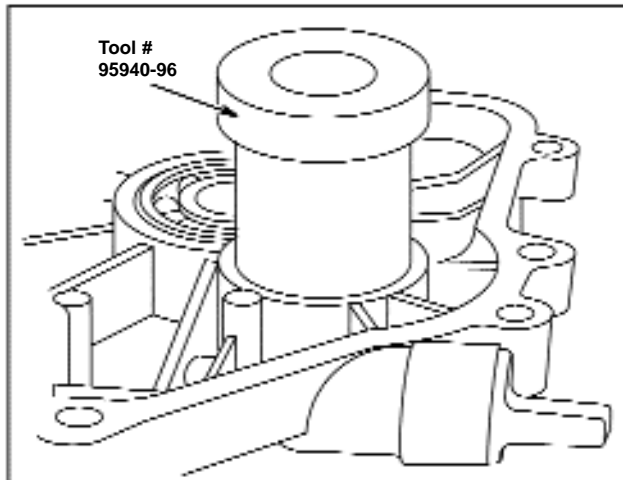

Figure 142- Install Ball Bearing
- Using an arbor press and Tool #95940-96 Driver, press in ball bearing until it bottoms, Figure 142.